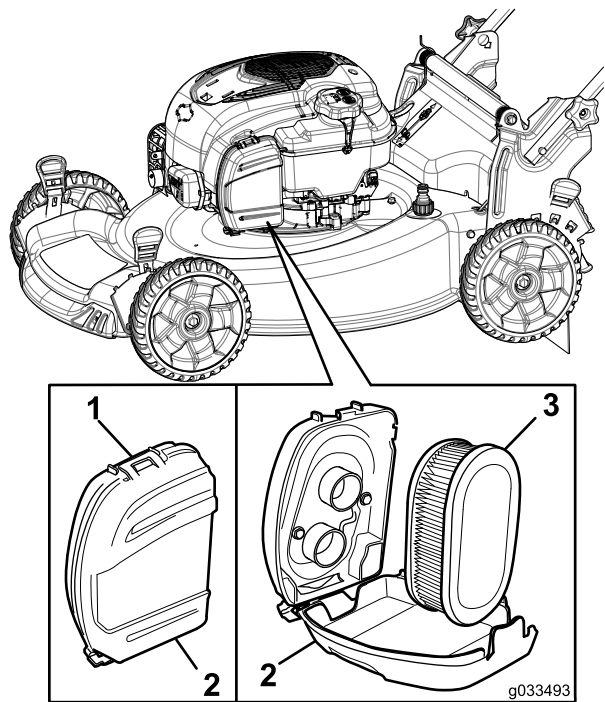

Figure 28
- 1. Unclip the top of the air-filter cover (Figure 28).
- 2. Remove the air filter (Figure 28).